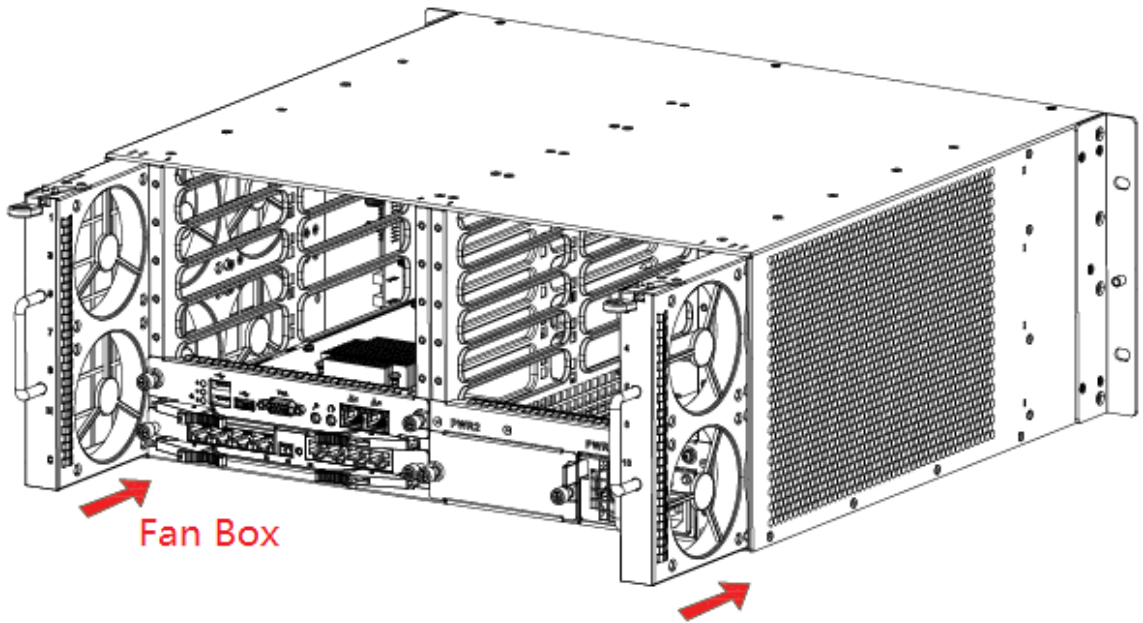

Figure 2-3
- Step 4 Insert left and right fan boxes into corresponding positions, until the top snap joint is fixed, as shown in Figure 2-3.